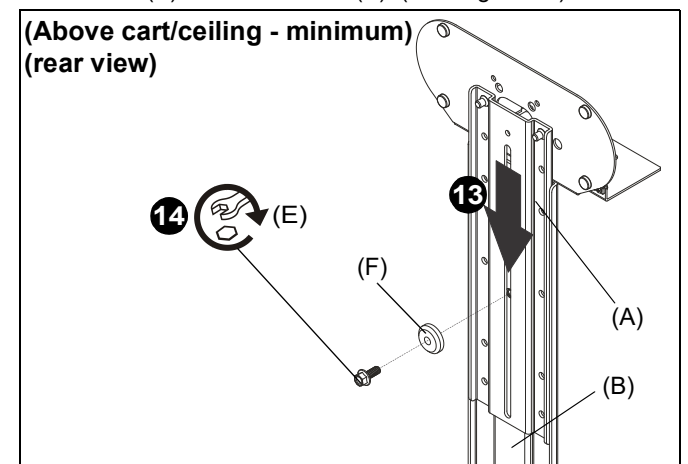

Figure 22
- (For **minimum extension**) Slide upright bracket (A) behind main bracket (B). (See Figure 22)
- (For **minimum extension**) Use 1/4-20 x 5/8" hex head flange bolt (E) and center washer (F) to secure upright bracket (A) to main bracket (B). (See Figure 22)